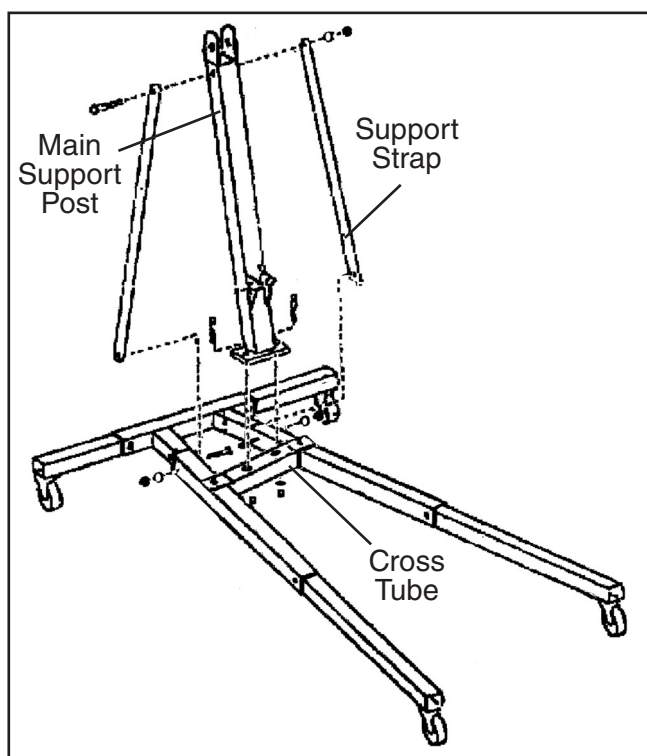

Figure 9. Beam assembly.
5. Position the main support post onto the cross tube (**Figure 9**), and secure it in place with two M14-2 x 100 hex bolts, washers, and nuts.
6. Install both support straps on the main support post (**Figure 9**) with two M14-2 x 100 hex bolts, washers, and nuts.
7. Connect both support straps to the intermediate legs (**Figure 9**), with two M16-2 x 110 hex bolt, washers, and nuts.